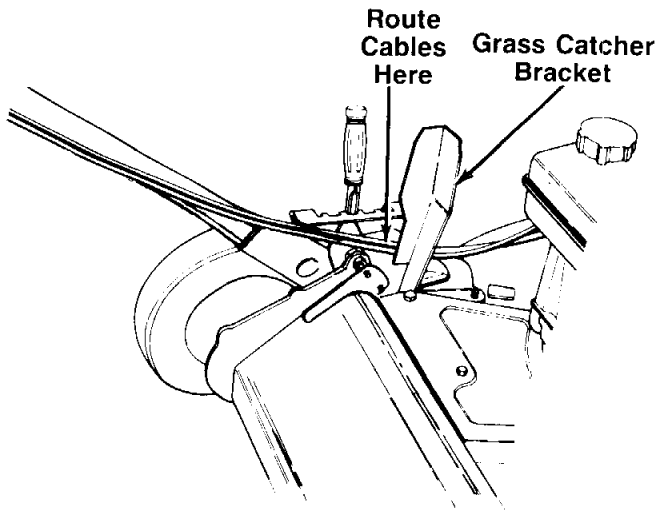
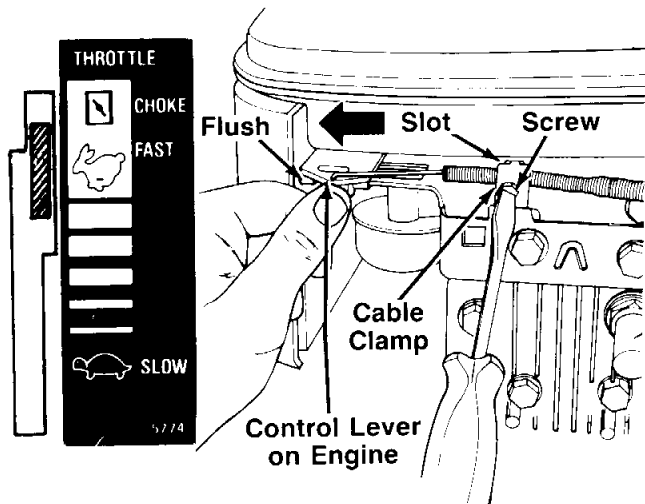

FIGURE 4.
FIGURE 7.—Model 12872
1. Route the brake cable between the handle wheel bracket assembly and the grass catcher bracket, and under the lower handle. See figure 4.
- Move the throttle control lever all the way forward to CHOKE, then back it up two "clicks" (approximately 5/16"). See figure 7.
- The throttle control cable is attached to the upper handle. Route the throttle control cable under the lower handle and between the handle wheel bracket assembly and the grass catcher bracket (refer to figure 4). Hook the "Z" end of the throttle control cable into the hole in the control lever on the engine. See figure 7.
- Using a 5/16" wrench or nutdriver, remove the screw on the cable clamp shown in figure 7. Slip the control casing under the clamp. Replace the screw (casing should be above the screw), but do not tighten screw (cable must still move freely beneath the clamp). Make certain the tab on the cable clamp is seated into the slot on the engine.
- Push the control lever on the engine as far toward the **outside** of the engine as it will go. The edge of the control lever should be flush with the bracket on the engine. See figure 7. Hold the control lever in this position as you tighten the screw on the cable clamp to secure the throttle cable.